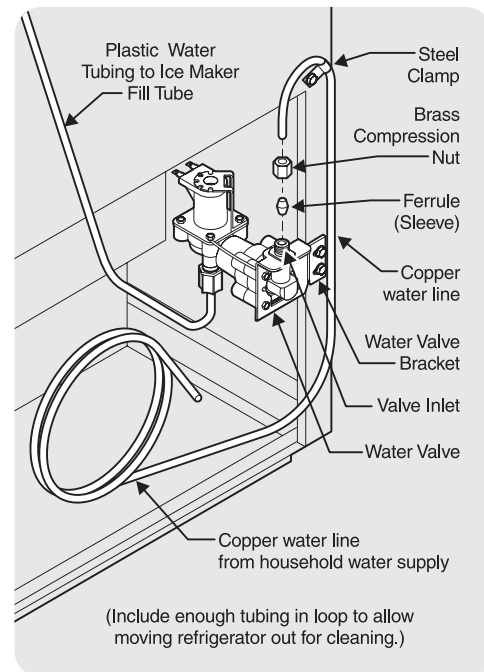

Figure A18
- A water supply line made of 1/4 inch (6.4 mm) OD, copper tubing. To determine the length of copper tubing needed, measure the distance from the ice maker inlet valve at the back of the refrigerator to your cold water pipe. Then add approximately 7 feet (2.1 meters), so the refrigerator can be moved out for cleaning. See Figure A18.
4. Slide brass compression nut, then ferrule (sleeve), onto water supply line, as shown in figure A18.
6. With steel clamp and screw, secure water supply line to rear panel of refrigerator at location shown in Figure A18.
7. Coil excess water supply line (about 2 1/2 turns) behind refrigerator as shown in Figure A18 and arrange coils so they do not vibrate or wear against any other surface.